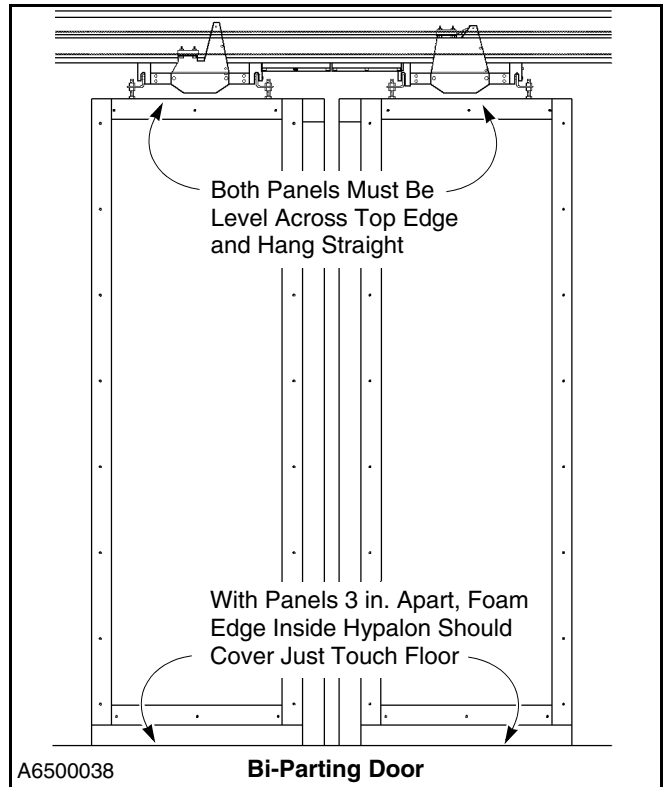

Figure 35
1. Check that each insulated door panel is level along its top edge. If adjustment is necessary, the sides of either panel can be independently adjusted up or down by repositioning the upper nut along the threaded rod. (See Figures 35 and 36.)